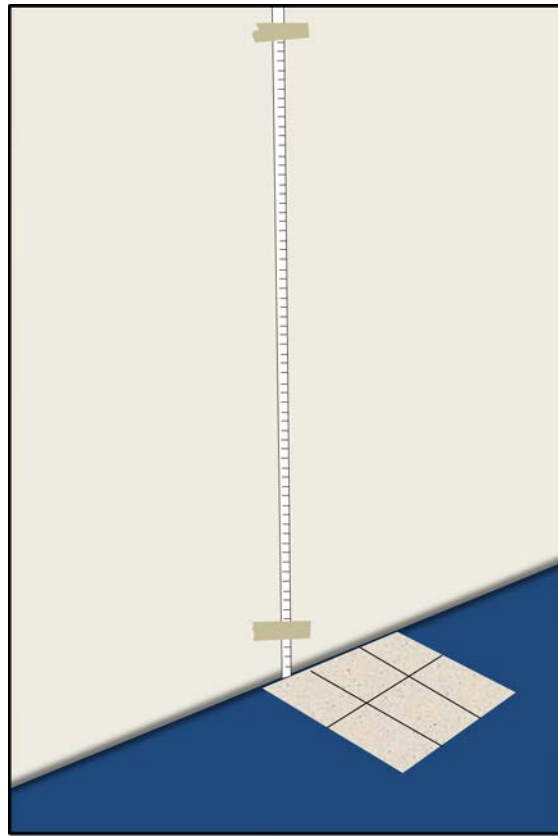

Figure 5: Setup for the tape measure and cardstock.
4. Use two pieces of masking tape to secure the tape measure to a wall adjacent to a clear floor space so that the 0 cm mark is touching the ground (Figure 5).
5. Place the cardstock on the floor so that the 15 cm area is directly in front of the tape measure (Figure 5).
18. Place the cardstock on the floor so that the 1 Drop area is directly in front of the tape measure (Figure 5).